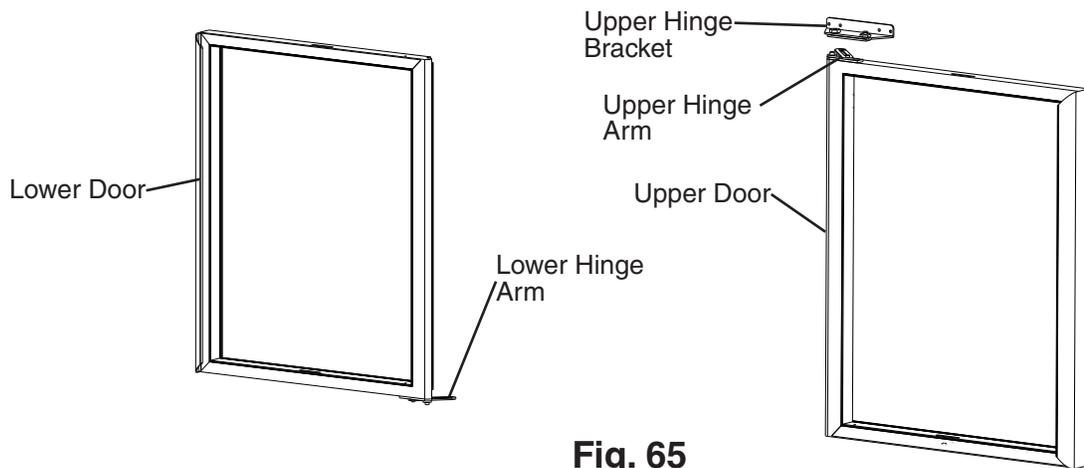

Fig. 65
- 18) Rotate the lower door (making it the upper door) 180 degrees. Rotate the lower hinge bracket 180 degrees. Confirm the thrust washer is in place on the door, then place the new upper hinge bracket onto the upper door pin. See Fig. 65.